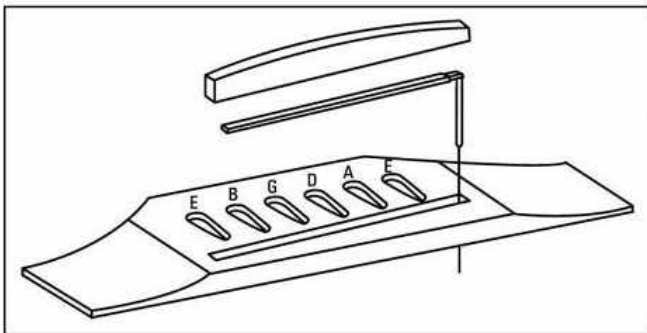

Figure 1
8) Drop the Sadducer in the slot, referring to Figure 1. **Take care not to bend the Sadducer or stress the solder joint!**